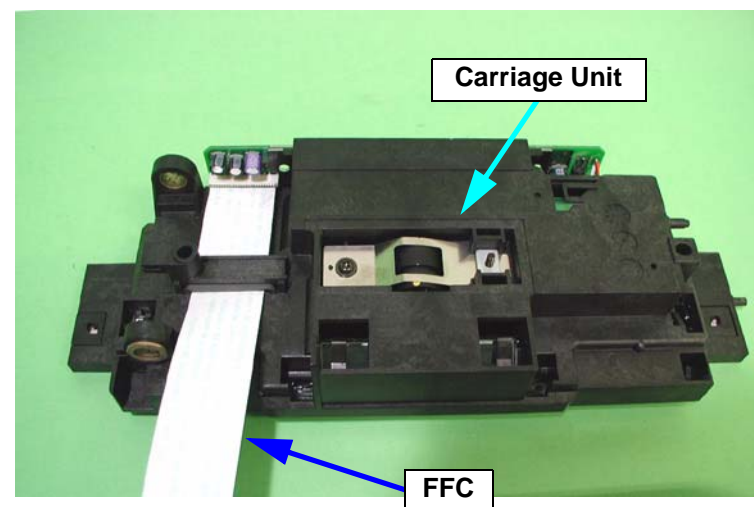

Figure 4-16. Carriage Unit Removal (6)
10. Disconnect the white FFC from the carriage unit. (See Figure 4-16)